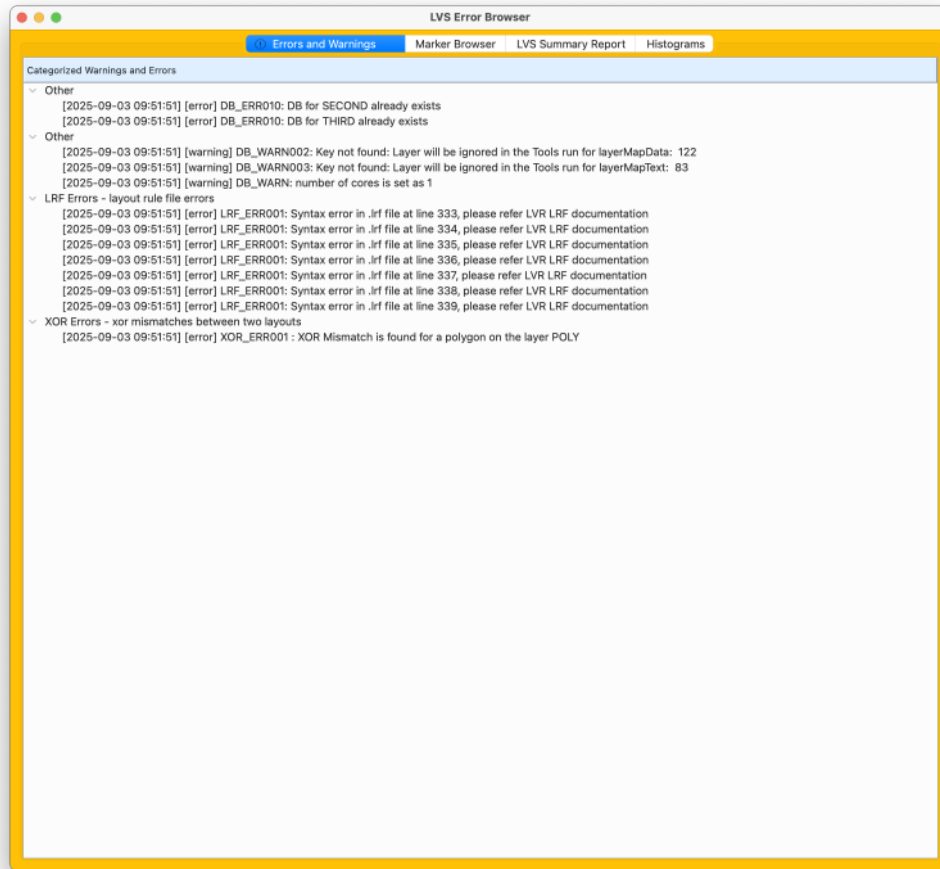

Figure 80: **gcd1_XOR002** error list: XOR mismatches reported on the POLY layer.
Figure 79 shows the use-case view highlighting the POLY layer selection and the dense pattern of instances; Figures 80, 81, and 82 capture the error listing, marker table, and summary report produced by the XOR run.
- **Error report** (Fig. 80): lists *XOR.ERR001* entries noting that an XOR mismatch was found for polygons on layer **POLY**. This directly corresponds to the deleted POLY shape in the test layout that no longer overlaps with the reference.